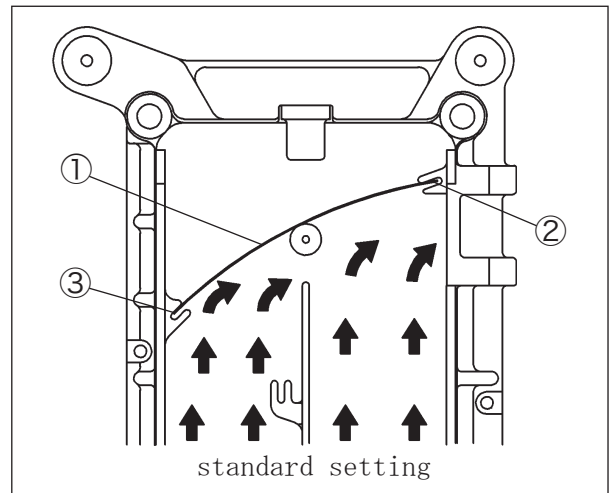

Fig. 8-2
To set the standard position, insert the air deflector ① into the guides ② and ③. (See Fig. 8-2)